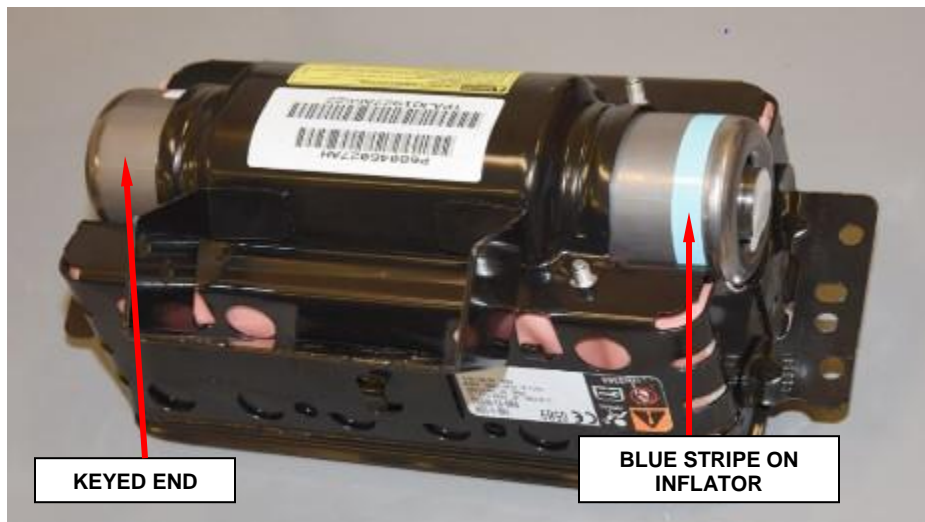

Figure 67 – Insert Inflator (Shown with Cushion Installed)
- k. Slide **new** inflator into housing. The keyed end is inserted first, therefore the blue stripe on the inflator will be located at the open end, as shown (Figure 67).